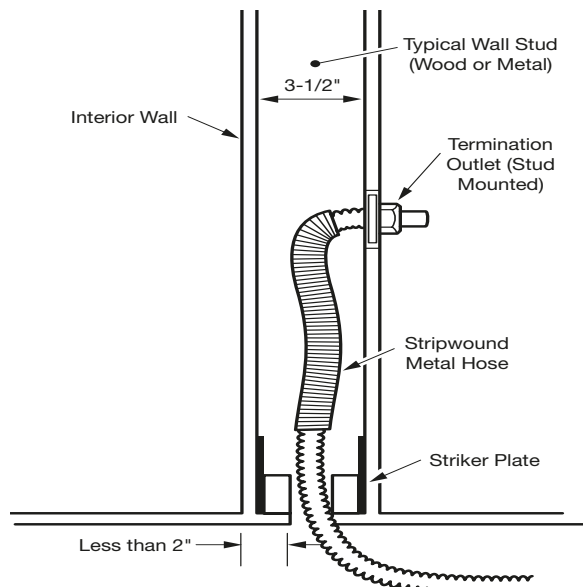

Figure: 4-9
- c. Hardened steel striker plates provide the required protection through building structures as described above. Type RW Floppy steel conduit shall be installed as additional protection at termination points. (Figure 4-9).